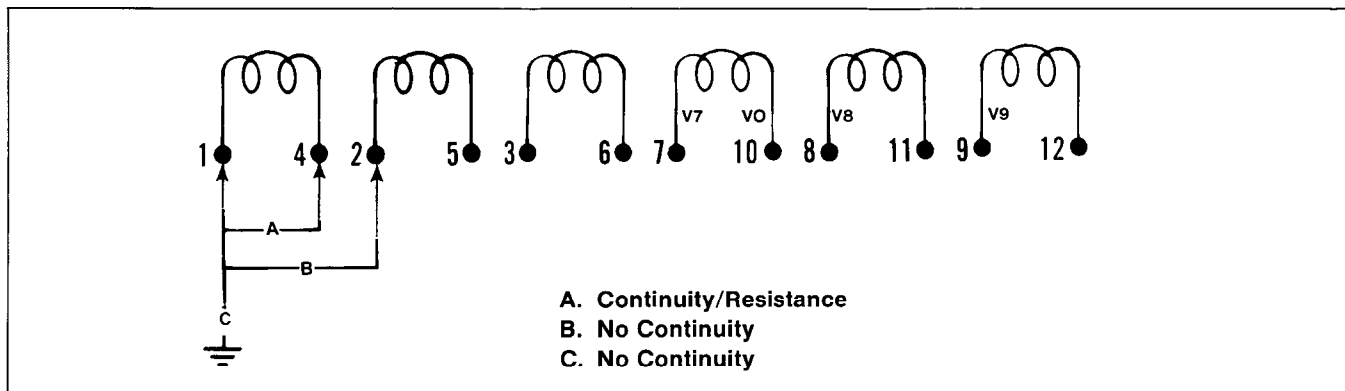

Figure 4-12. Stator Winding Test
- Open windings: with an ohmmeter, repeat check for **each pair** of leads for high resistance readings. High resistance across “A” or continuity across “B” and ground indicates a faulty stator; replace stator (see Figure 4-12).